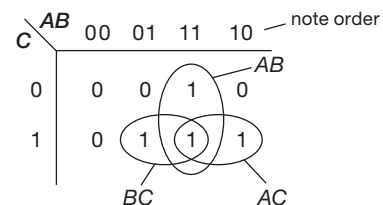

Figure 10.36. Karnaugh map for majority logic.
Step 2. Make a Karnaugh map. This is somewhat akin to a truth table, but the variables are represented along two axes. Furthermore, they are arranged in such a way that only one input bit changes in going from one square to an adjacent square (Figure 10.36).